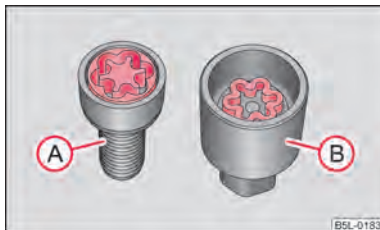

Fig. 171 Illustration image: Safety wheel bolt with adapter
- Insert the adapter (B) with its toothed side into the inner toothing of the head of the safety wheel bolt (A) ⇒ fig. 171.
- Insert the wheel wrench fully onto the adapter (B).